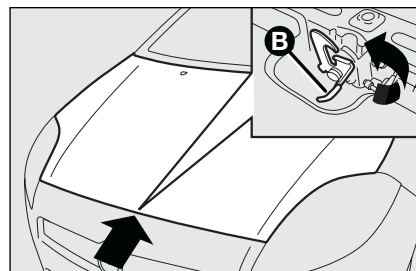

fig. 97
- pull lever **B-fig. 97** and raise the bonnet.